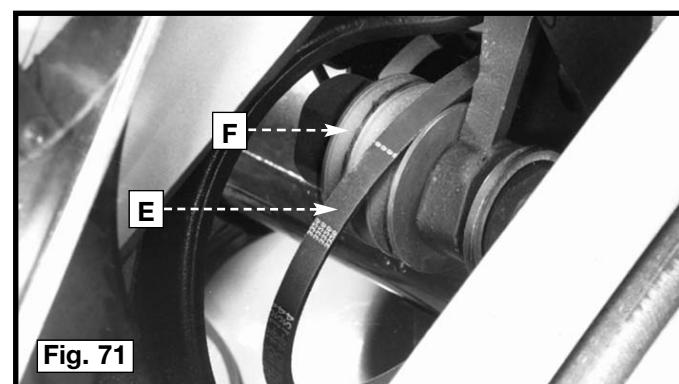

Fig. 71
5. Lower the saw arbor. Remove the belts (E) Fig. 71, one at a time from the motor pulley.
6. Remove the belts (E) Fig. 71 one at a time from the arbor pulley (F).
7. Install the three new belts, one at a time in the grooves of the arbor pulley (F) Fig. 71, and on the motor pulley.